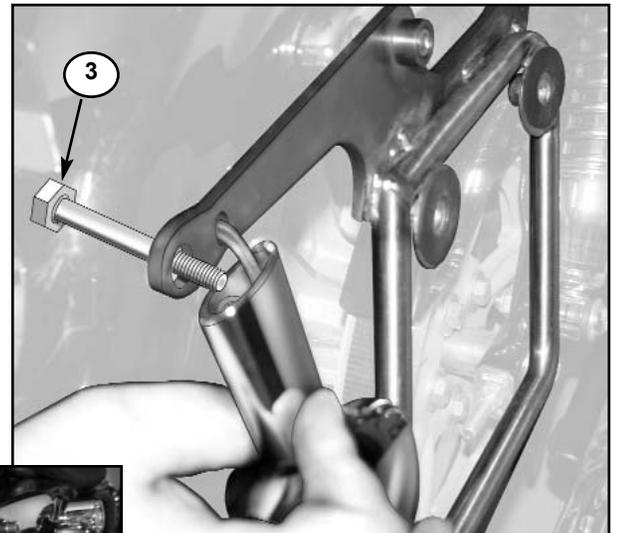

Figure 7
7. Reinstall turn signal using supplied 2 3/4" bolt and re-attach wire connector (**1/2" Wrench. Figure 7**